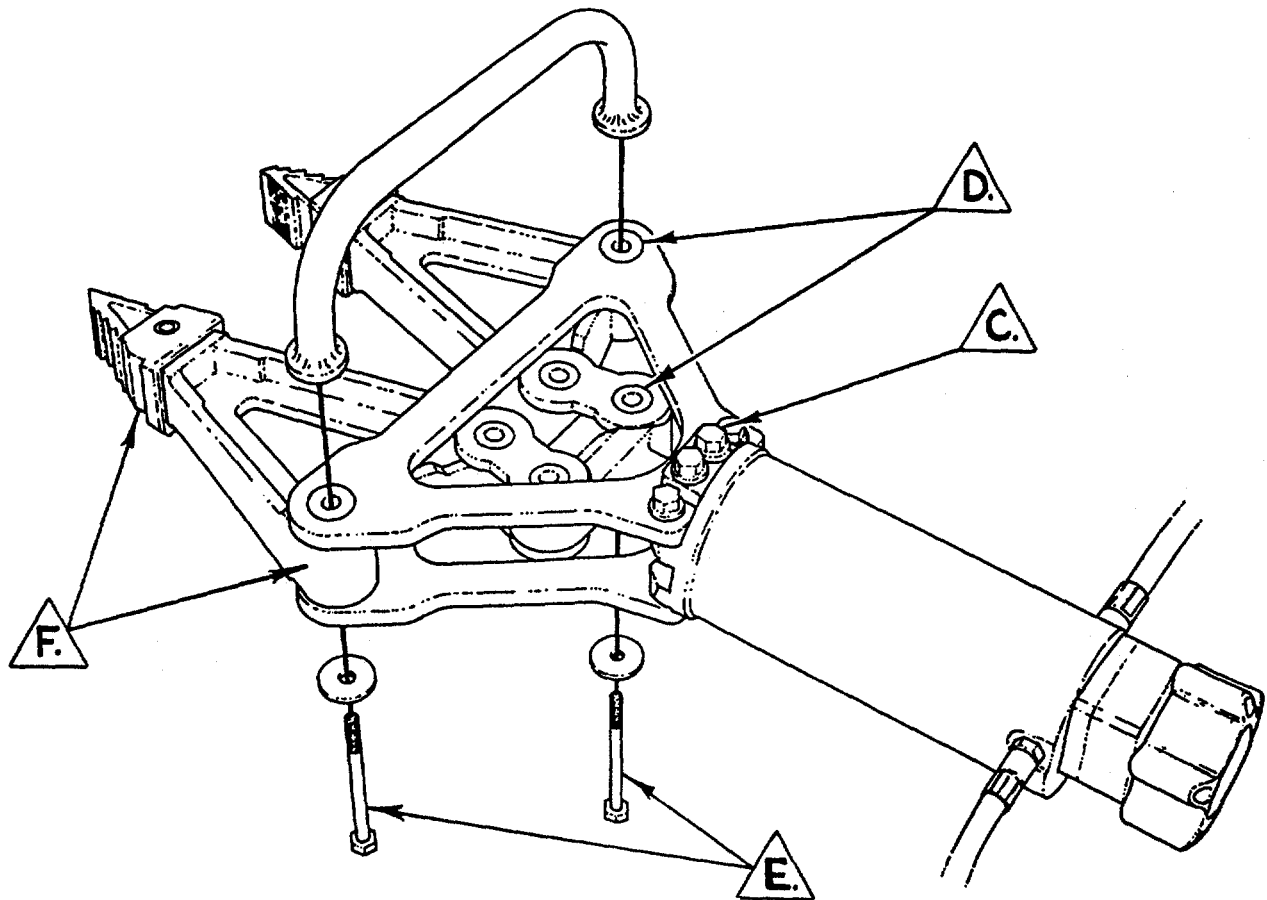

Figure 3-2.
- C.** After every 80 hours of useage, or as necessary, make sure the (8) frame bolts (Sweed P/N G87139) are torqued to 100 foot-pounds.
- D.** All bearings are pre-lubricated and ready for use. After every 200 hours of use, or as needed, spray Teflon lubricant in and around the areas of the pins. (Figure 3-2).
- a. up to 30 days..... Apply a Teflon multi-purpose spray lubricant, MIL-L-87177, into the seam between the linkage and pins; the seam area between the arm, clevis and linkage. (Ref. Figure 3-2).